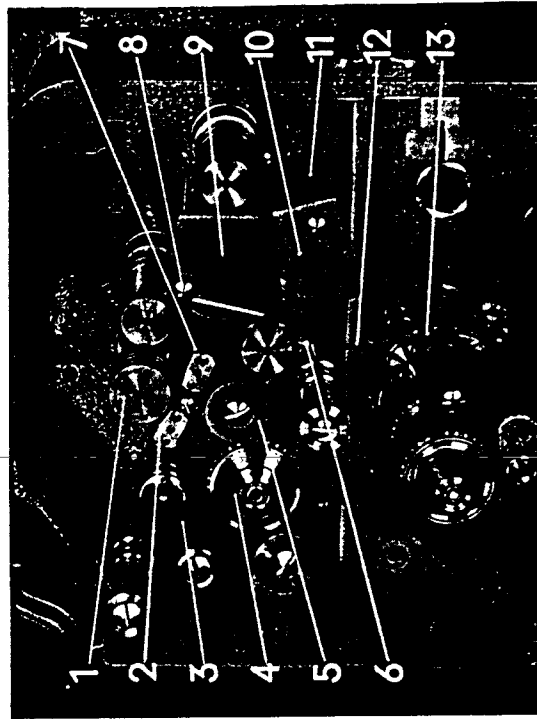

Fig. 33 SIEMENS-Klangfilm magnetic sound reproducer
and thus alongside the six-track magnetic head (pos. 10) the cover of which is marked with a red line. The 35 mm magnetic sound film, however, passes the four-track magnetic head fig. 33 (pos. 9) alongside the white line on the cover. The pad roller cradle is pressed to the sprocket and engages itself. The corresponding rubber roller is pressed into position by turning the knurled sleeve clockwise to the red spot for the 70 mm film and counter clockwise to the white spot for the 35 mm film. Further, a micro-switch comes into action when either of these rubber pad rollers is pressed down actuating the corresponding amplifier for four-track magnetic sound or six-track magnetic sound respectively. For optical track reproduction both rubber rollers remain in the lifted position so that both the switches are out of action. These micro-switches are only built into sound heads for installations comprising SIEMENS amplifier equipment. Now the film must be tightly wrapped round the damping roller fig. 33 (pos. 5) and the guiding roller below as well as around the lower part of the take-off sprocket of the projector, the pad roller cradle being pressed to the sprocket afterwards. Thus the plate spring presses the angle lever out of its stop position and the damping roller of the magnetic sound head can be put into action with the running of the film. The actual mounting of the magnetic sound head was already described on page 5 of this Instruction Manual, and the conversion of this unit from 70 to 35 mm films on page 31 and 33.
All bearings of the stereodyn magnetic sound reproducer are already lubricated in our factory so that a smooth operation is insured. The ball bearings of the 3 stabilizer drums situated around the four-track magnetic head (fig. 33, pos. 9) are treated with a special grease and should not be lubricated. From time to time the slide bearings of the metal guide rollers have to be slightly lubricated with a thin oil (sewing machine oil) which is free from acid and resin. But doing so, it is important to avoid any oil contamination of the roller surfaces or other parts. The shafts of the rubber pressure rollers 2 and 7 and the filter roller have, from time to time, to be covered with a thin layer of pure vaseline. Stabilizer drums and guide rollers must be free from any film emulsion deposit. Special attention should be paid to this fact when using new copies. For removing the emulsion deposit only sticks of hard wood should be employed, in no case metal tools.